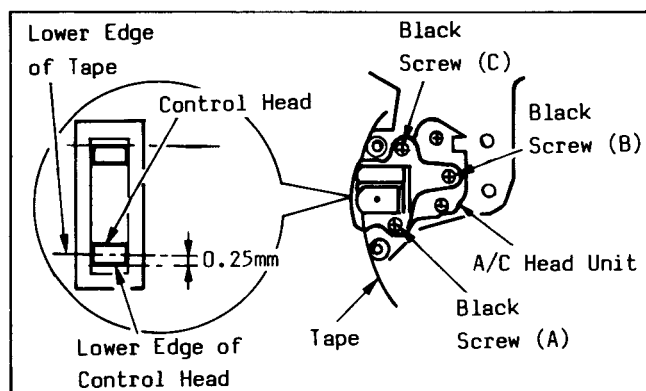

Fig. M17
- (1) Play back a cassette tape and confirm that the tape runs properly between lower and upper limits of T3 Post. Also confirm that the tape is running smoothly.
- (2) If adjustment is required, turn Black Screw (B), in Fig. M17, counterclockwise until curling is apparent at lower edge of T3 Post. Then turn Black Screw (B) clockwise until the curling smooths out.
- (1) Connect the oscilloscope to TP4001 on the Main C.B.A.
- (2) Play back the Monoscope portion (6KHz, Mono) of the Alignment Tape.
- (3) Adjust Black Screw (C) on the A/C Head Base in Fig. M17 so that the output level is at a maximum.
- (4) Readjust Black Screw (A) shown in Fig. M17 for maximum output.
- (5) Disconnect the oscilloscope.